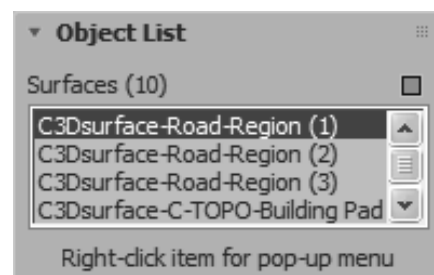

Figure 3–9
1. Verify that the *Civil Explorer* tab is selected. Expand **Civil View Objects>Imported Objects**, if not already expanded. Select **Surfaces** and note that the left portion of the corridor is selected in the viewports. The *Object List* rollout opens with all of the surfaces listed, as shown in Figure 3–9.